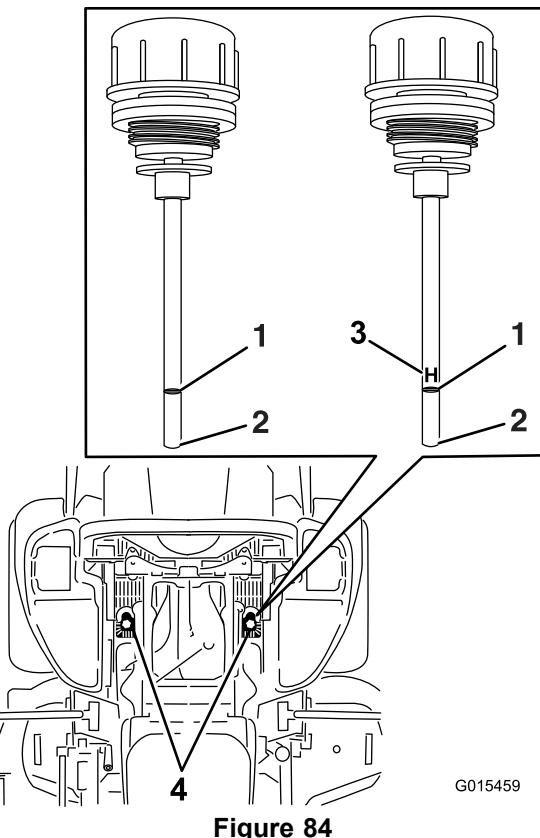

Figure 84
6. Clean the area around the dipsticks of hydraulic system reservoirs (Figure 84).
7. Remove one dipstick from the hydraulic reservoir (Figure 84).
9. Remove the dipstick and look at the end (Figure 84). If the oil level is at the add mark, slowly pour only enough oil into the hydraulic reservoir to raise the level to the full or **H** line.